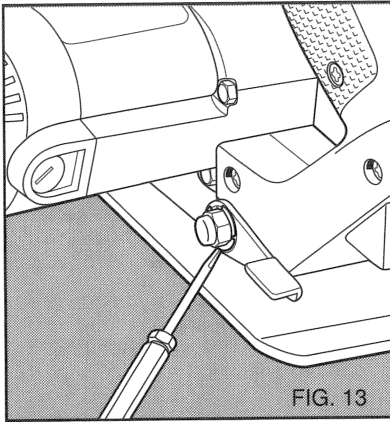

FIG. 13
2. Using a small screwdriver, pry the lock ring off, as shown in Figure 13.